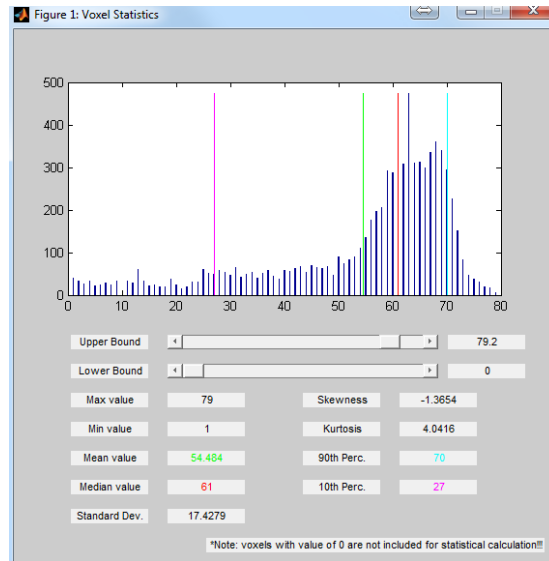

Figure 6.16: Histogram for One Image Slice
-  : Plot histogram for current slice (Figure 6.16); if ROIs exist, plot histogram for latest activated ROI